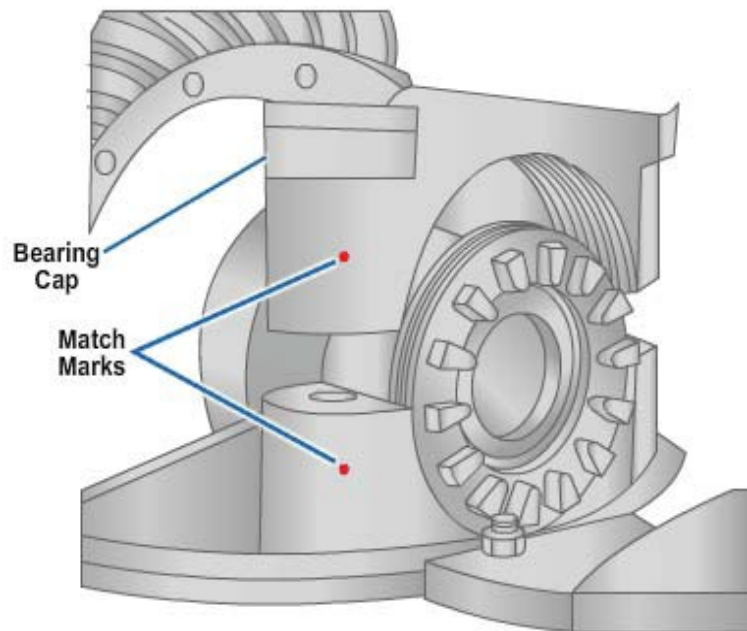

Figure 8-89 - Installation of bearing caps using match marks.
7. Install the bearing caps over the bearings and adjusting rings in the correct location as marked before removal (*Figure 8-89*).